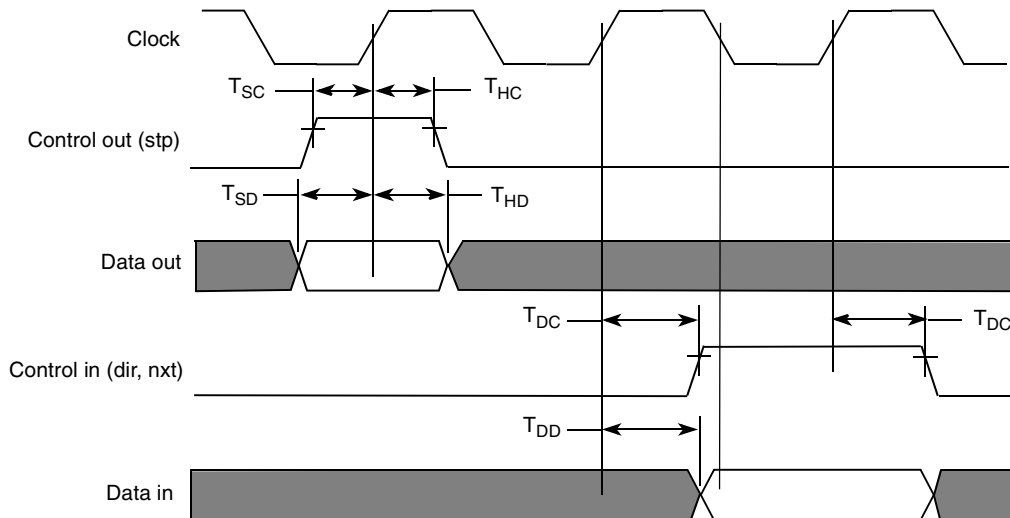

Figure 84. USB ULPI Interface Timing Diagram
The high speed (HS) interface is supported via the ULPI (Ultra Low Pin Count Interface). Figure 84 depicts the USB ULPI timing diagram, and Table 64 lists the timing parameters.